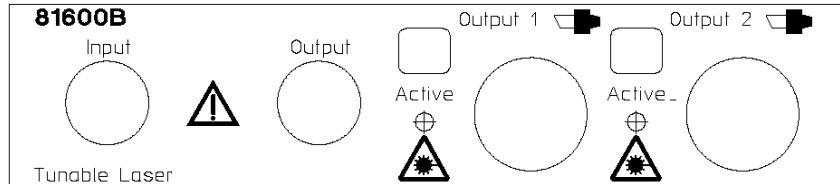

Figure 1 Keysight 81600B Tunable Laser Source Family modules (dual output, angled contact connectors)
**Figure 1** illustrates a typical front panel for a dual-output Keysight 81600B Tunable Laser Source Family module, such as options #201, #200, #160, #150, #140 or #130. In this case, angled contact interfaces (81600B-072) are indicated. The two large circles indicate the optical ports, while the two smaller circles at the left are BNC connectors.